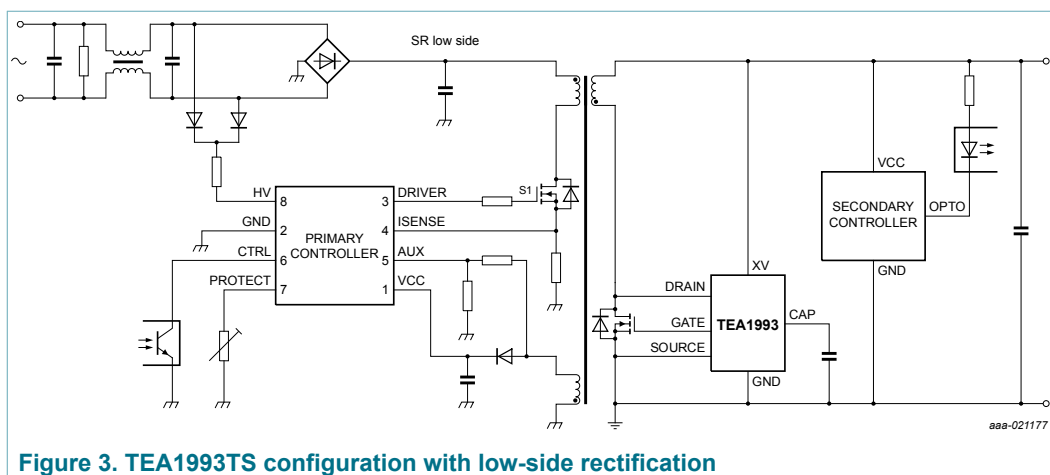
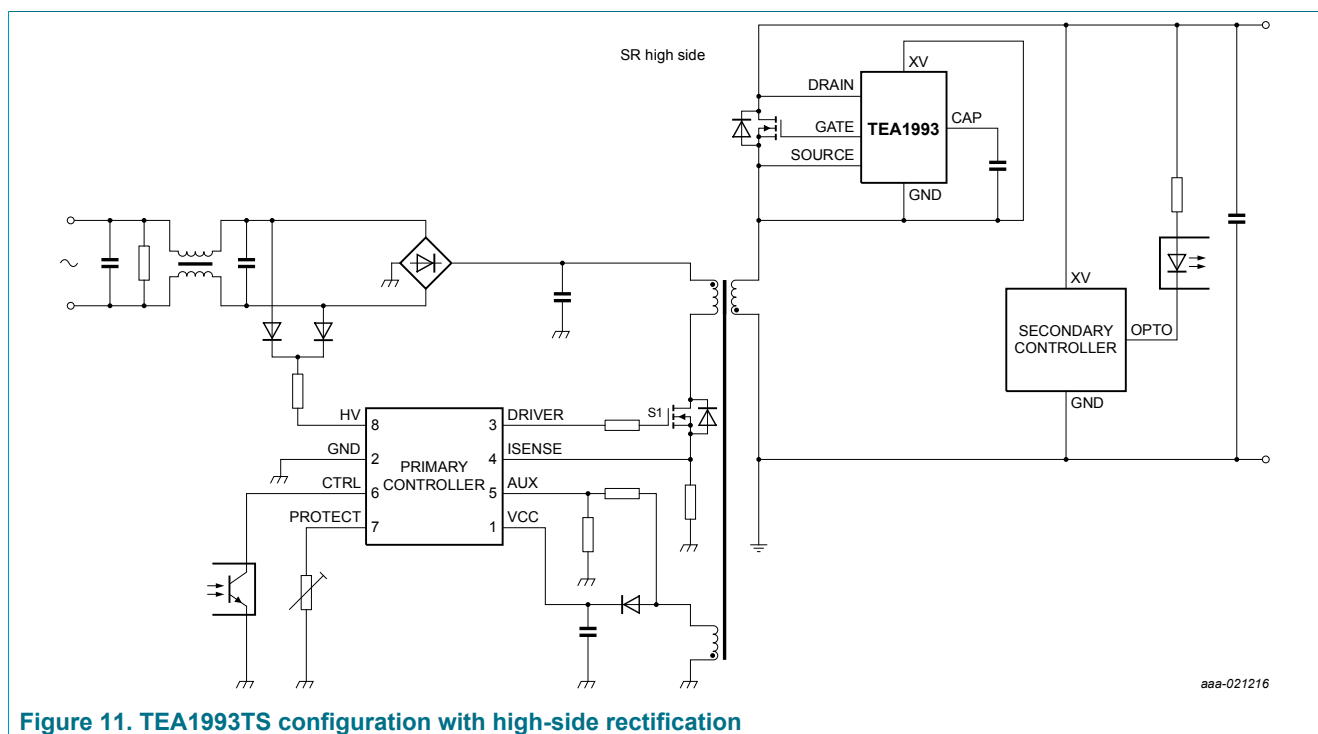

Figure 3. TEA1993TS configuration with low-side rectification
Figure 11. TEA1993TS configuration with high-side rectification
The TEA1993TS is a controller IC for Synchronous Rectification (SR) in flyback applications. It can drive the external synchronous rectifier MOSFET for the rectification of the voltage on the secondary winding of the transformer. Figure 3 shows a typical configuration.
The maximum output voltage of the driver is limited to 12 V. This high output voltage drives all MOSFET brands to the minimum on-state resistance. In applications where the IC is supplied with 5 V, the maximum output voltage of the driver is 4.2 V and logic level SR MOSFETs can be used (see Figure 3).
A flyback switched mode power supply with the TEA1993TS consists of a primary side controller with a primary switch, a transformer, and an output stage. To obtain low conduction loss rectification, an SR MOSFET is used in the output stage. The SR MOSFET can be placed low-side (see Figure 3) or can be placed high-side (see Figure 11). In the high-side application, the TEA1993TS is self-supplying. The capacitor on the CAP pin supplies the TEA1993TS. When the drain voltage is positive, it is charged via the DRAIN pin.